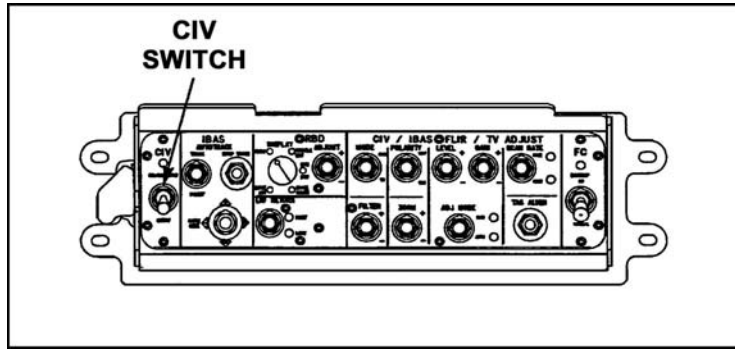

Figure 7. CIV STOW/UNSTOW switch.
- i. Unstow the commander's independent viewer (CIV)(Figure 7).